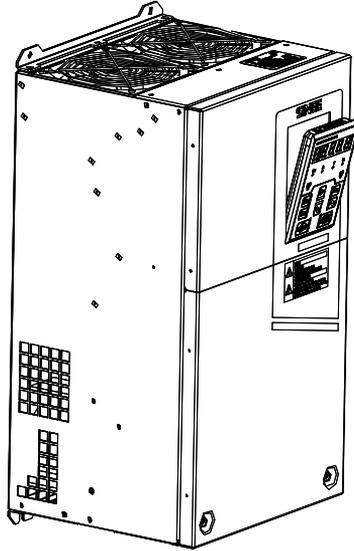

Figure 2-4 Keypad Installation
- Assemble the keypad: Make the RJ-45 terminal aligned with the modular plug at the keypad bottom horizontally, and press the keypad flatly until it clicks into the right place. See Figure 2-4.